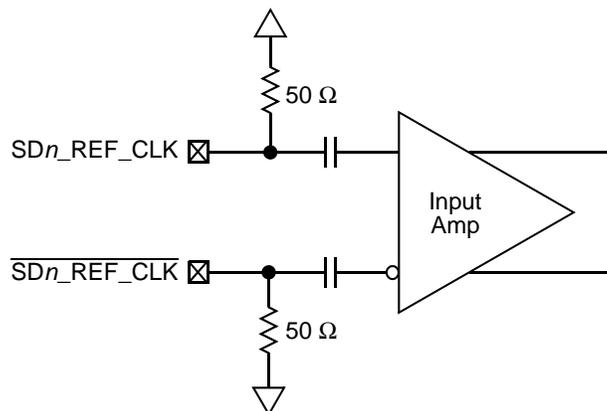

Figure 45. Receiver of SerDes Reference Clocks
Figure 45 shows a receiver reference diagram of the SerDes reference clocks.
- The $\overline{SDn_REF_CLK}$ and SDn_REF_CLK are internally AC-coupled differential inputs as shown in Figure 45. Each differential clock input ($\overline{SDn_REF_CLK}$ or SDn_REF_CLK) has a 50- Ω termination to $SGND_SRDSn$ (xcovvss) followed by on-chip AC-coupling.